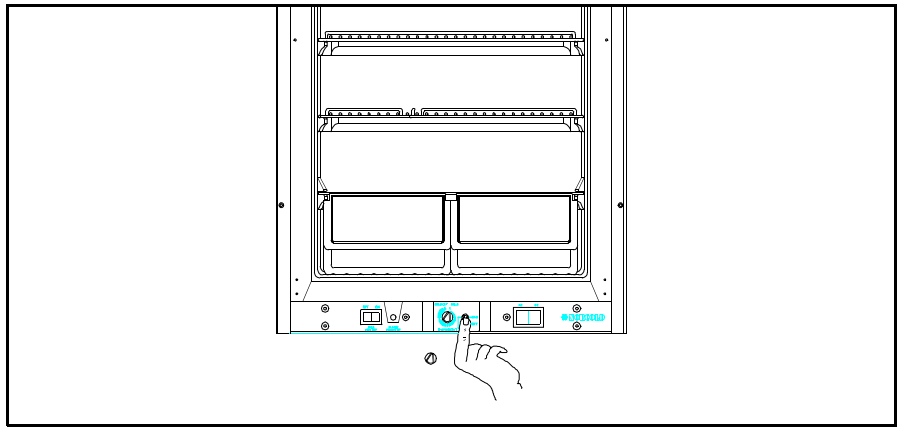

Figure 3.25 Depressing Safety Valve Shaft
1. Remove the control knob and depress the shaft with your finger until it bottoms out as shown in Figure 3.25. If refrigerator ignites and stays lit realign the combination control and reinstall knob. If ignition does not occur, proceed to next step.